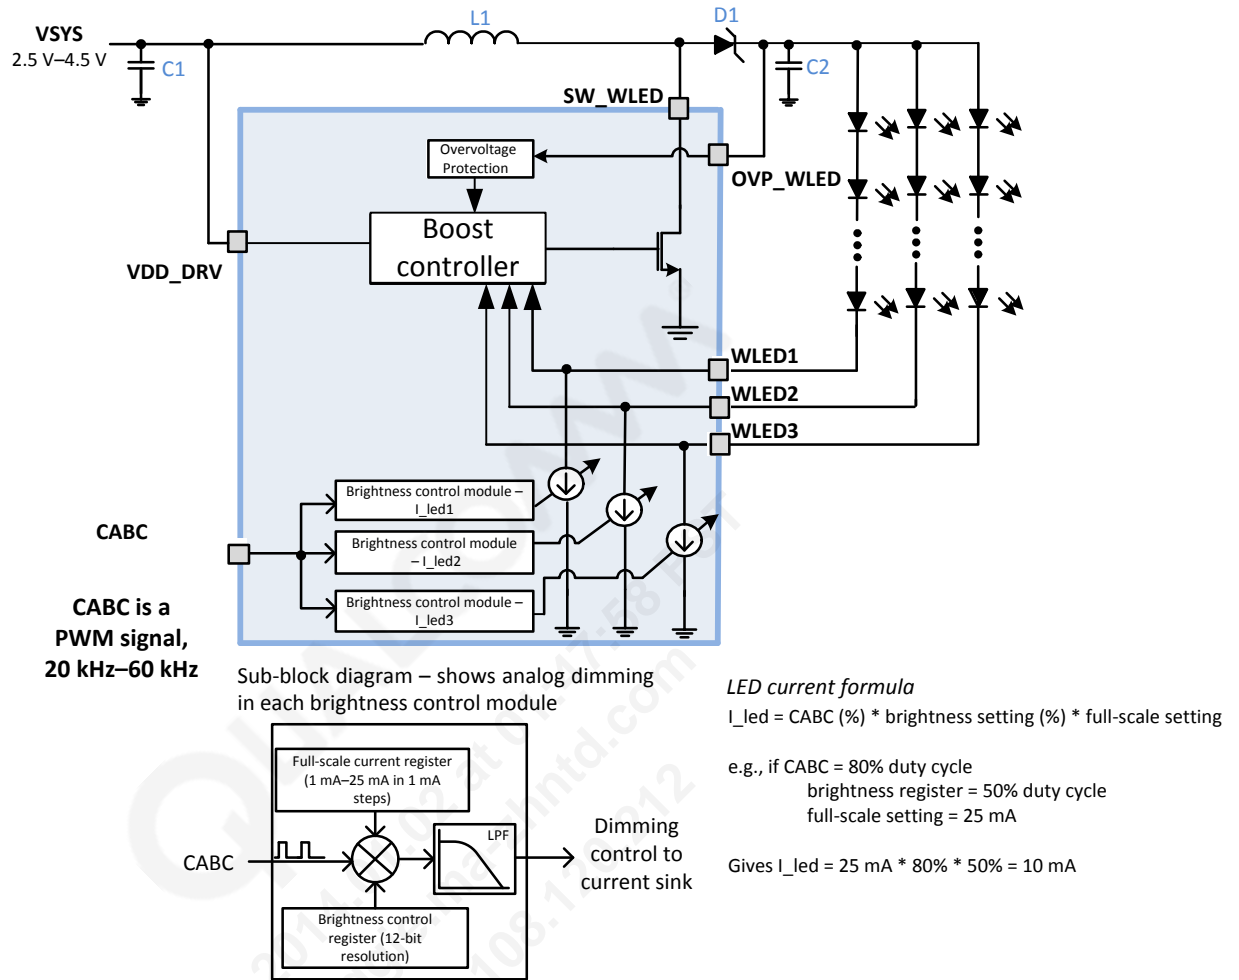

Figure 1-1 WLED high-level block diagram
- e.g., in Figure 1-1, the full-scale current setting is 25 mA, the brightness register setting is at 50%, and the CABC PWM duty cycle is 80%.